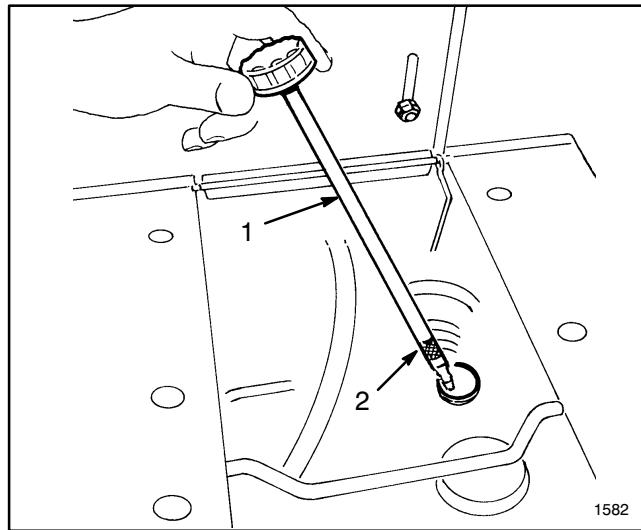

Figure 4
3. Remove dipstick from fill tube (Fig. 4).
5. Slowly pour oil into crankcase (Fig. 4). The engine uses any high quality detergent oil having the American Petroleum Institute — API — "service classification" SF or SG. Oil viscosity — weight — must be selected according to anticipated ambient temperature.
tube; then remove it and make sure that oil level is up to FULL mark on dipstick (Fig. 4). If level is low, add only enough oil to bring level up to FULL mark.